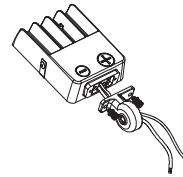

figure 1.6
- Step 2: Pass the wire through the mounting head of the bracket and fix it with an inner hexagon screw;(figure 1.6)